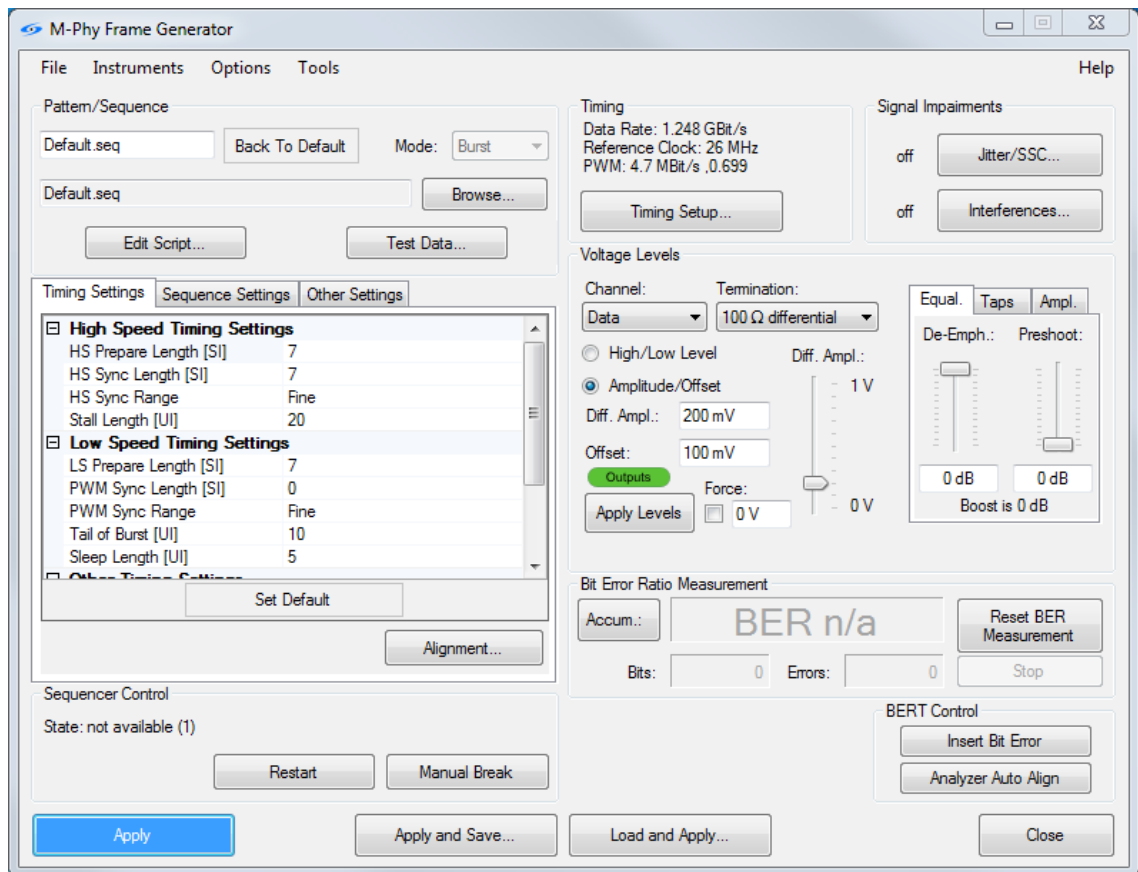

Figure 12 Frame Generator Main Window (after the instruments are connected)
- 8 8. Clicking on the **“Initialize Instruments”** button displays the Frame Generator main window as shown in Figure 12.
It comprises seven sections for selecting HS and LP MIPI M-PHY signal parameters (see Figure 12):
After the desired parameters have been selected, the following steps (see Figure 12) can be done.